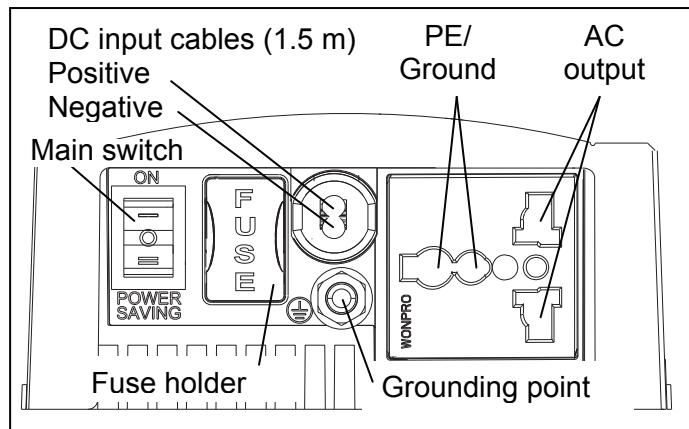

Figure 7: Overview connections
- Chassis ground: Use a cable AWG8 / 6 mm2 to connect the GROUNDING POINT (figure 7) to the central ground.
The neutral connector N of the AC output (figure 7) is NOT connected to the Grounding point!
3. AC voltage: the load can be plugged into the AC output (figure 7) directly.